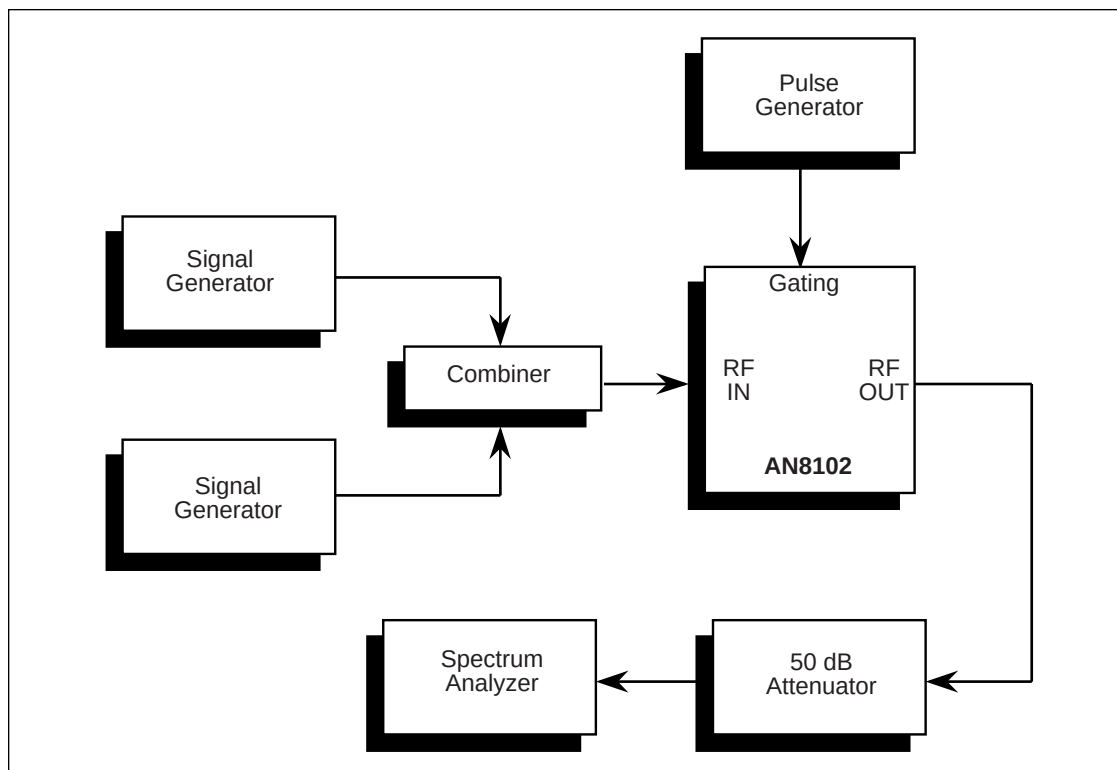

Figure 5-3. IMD Test Setup.
Intermodulation distortion (IMD) requires the use of two signal generators and a combiner as shown in Figure 5-3.
1. Set up the test equipment as in Figure 5-3.